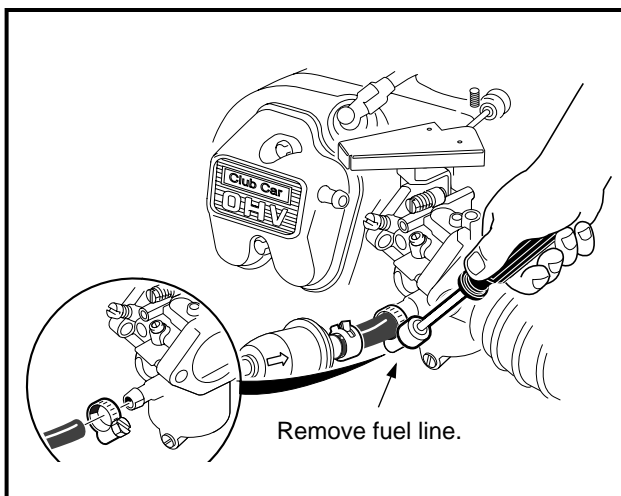

Figure 16-12 Fuel Line
- 3.4. Loosen the hose clamp and then disconnect the fuel line from the carburetor. To prevent spilling fuel, the disconnected end of the line can be pushed onto the impulse line fitting of the fuel pump (**Figure 16-12, Page 16-8**).